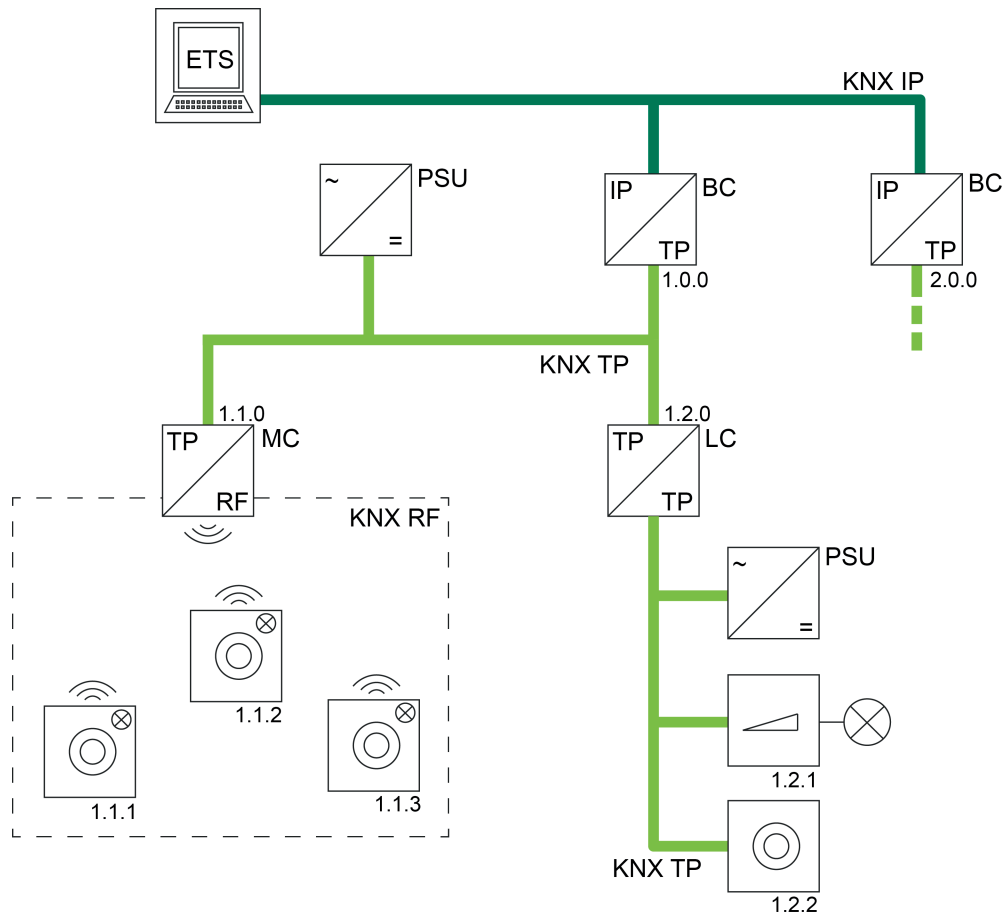

Figure 25: Example of a possible KNX topology with one KNX IP connection of the ETS (KNXnet/IP)
- Use of a KNX IP data interface (KNXnet/IP) (Figure 25):